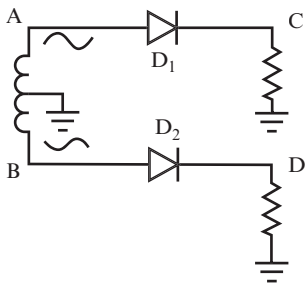

FIGURE 11.13
- 10** Figure 11.13 shows the waveforms at each end of a center-tap transformer secondary coil. Diode D_1 rectifies the waveform shown at point A, and diode D_2 rectifies the waveform shown at point B.